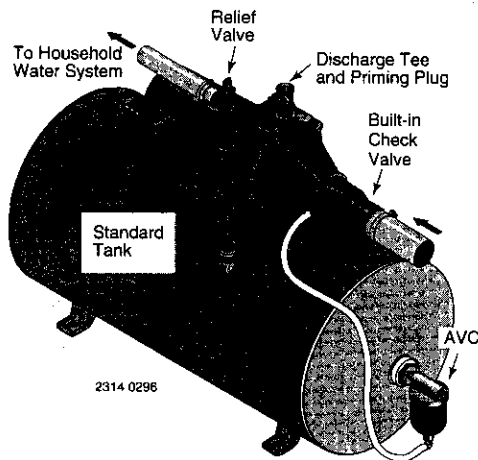

Figure 1
The Jet pump can also be mounted on standard horizontal tanks. A mounting kit with an AVC is furnished with tank (Figure 1, Page 3). Instructions are also included.
NOTE: To properly prime the pump, install a pipe tee in the discharge piping, similar to that shown in Figures 1 and 2 on Page 3.
1. Remove priming plug (Figure 1, Page 3).